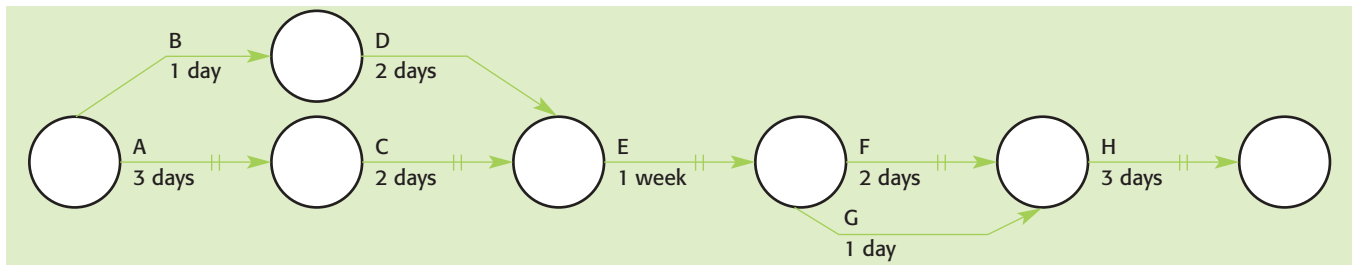

Figure 37.2 Adding durations to find the critical path
- that the project can be completed within three weeks – see Figure 37.2.